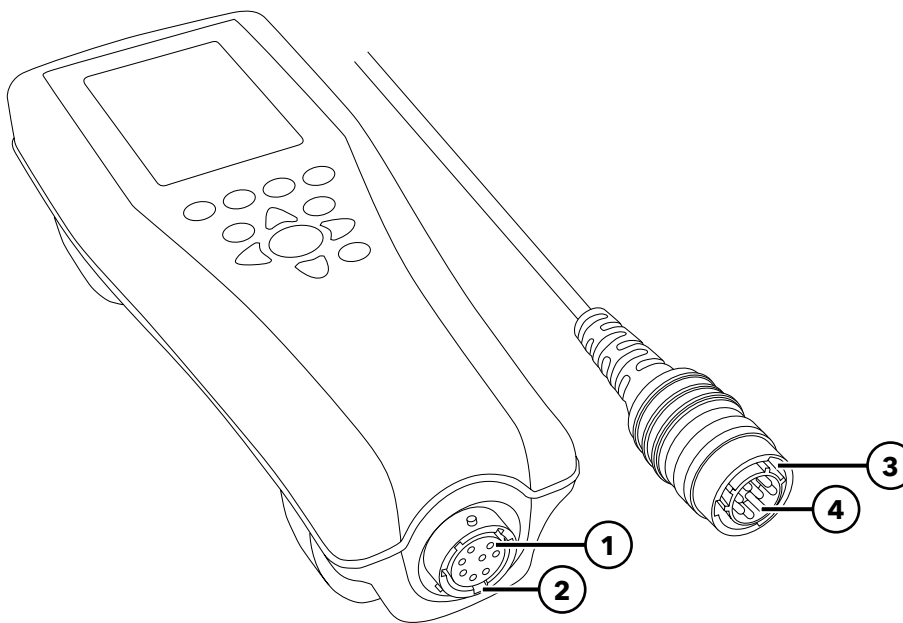

Figure 6 Keyed connectors
The military-spec (MS) cable connectors are keyed for positive mating and to prevent connector damage (Figure 6). The handheld retains its IP-67 waterproof rating when the cable is disconnected. However, the connectors are not wet-mateable and should be clean and dry before connecting.